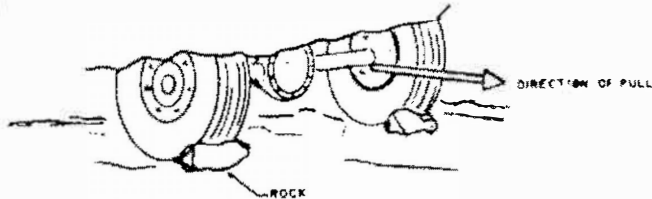

FIG. 8
2. Keep the vehicle standing still with the engine running and the transmission in Fig. 8. Use your emergency brake and block the wheels.